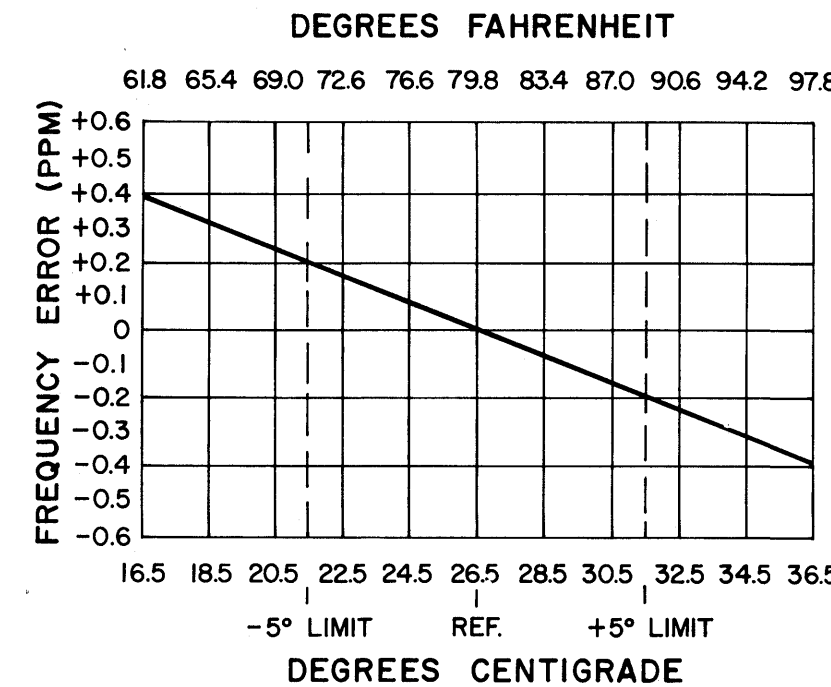

Figure 7 - Frequency Characteristics Vs. Temperature
2. Maintain the radio at 26.5°C (+/-10°C) and offset the oscillator, as a function of actual temperature, by the amount shown in Figure 7.
1. Maintain the radio at 26.5°C (+/-5°C) and offset the oscillator as a function of actual temperature, by the amount shown in Figure 7.